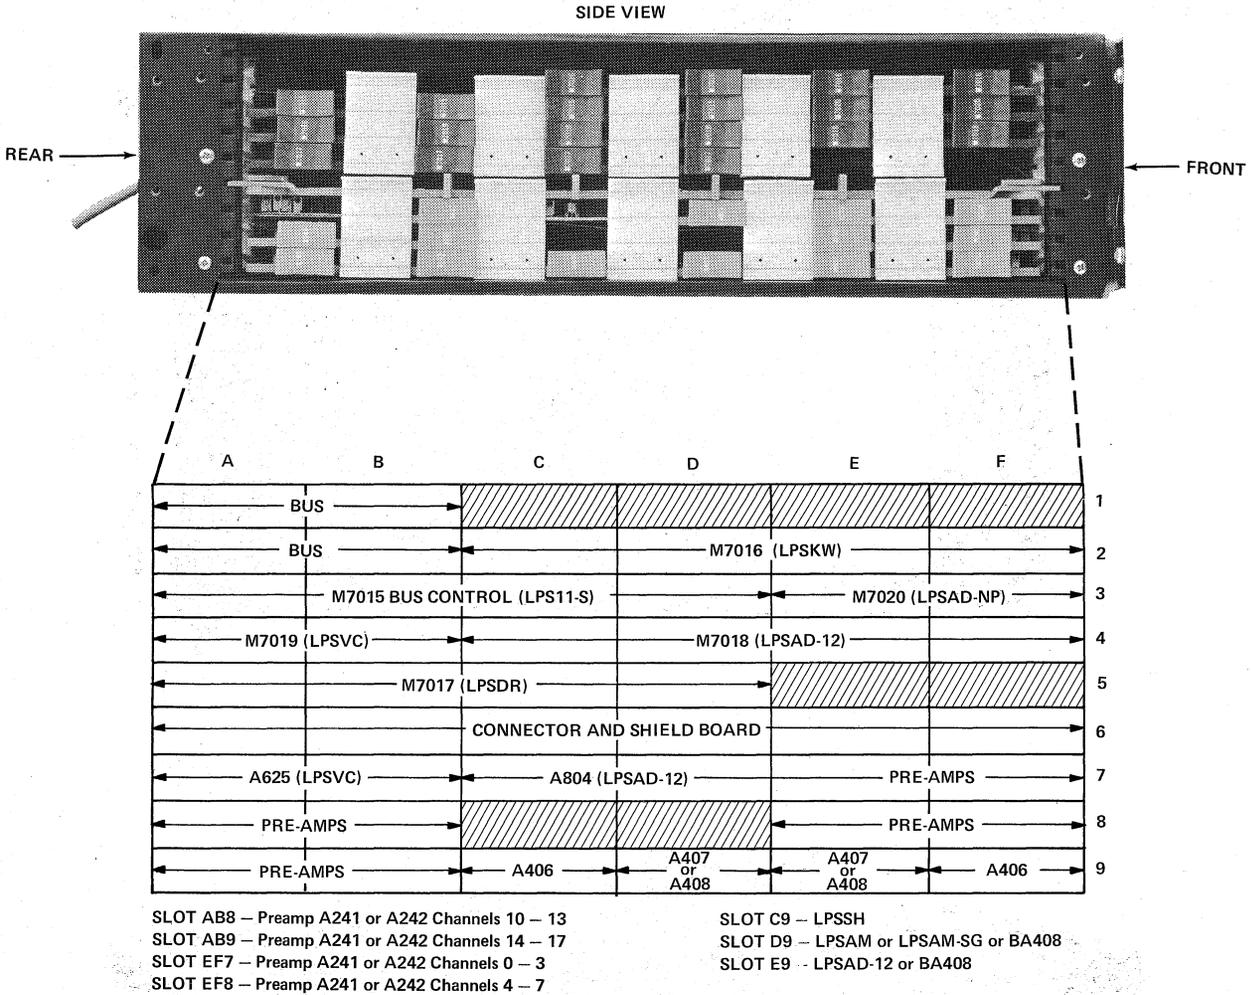

Figure 2-4 LPS11-S Option Slot Allocations
Figure 2-4 shows the mounting box complete with modules, together with a guide illustrating the option slot allocations. Module guides assist in inserting the modules into the proper slots.
4. Insert the bus control module (M7015) into slots A3/B3/C3/D3 (Figure 2-4).
4. Insert the Switched Gain Multiplexer module into slot D09 (Figure 2-4).